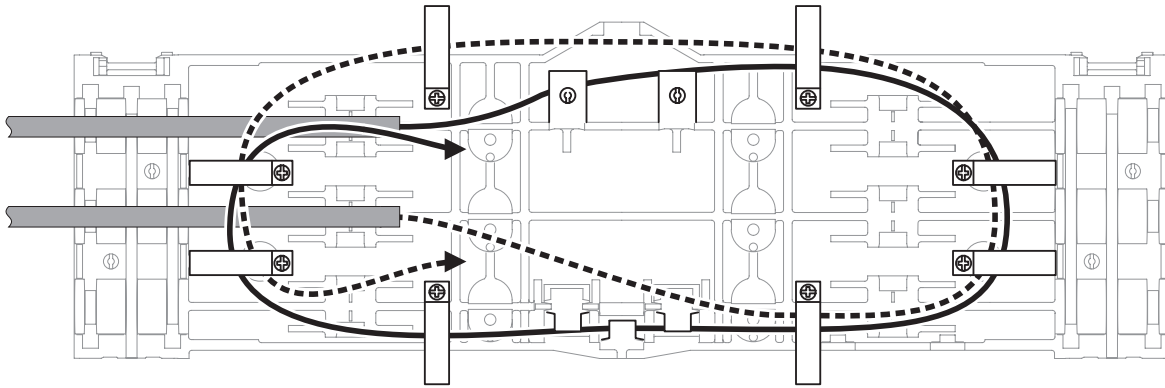

FIGURE 9A—Butt Splice configuration.
7.01 Route and store fiber bundles inside closure frame as indicated in Figure 9A-D. Fiber bundles should maintain minimum bend radius requirements.
7.02 Other port entry or exit combinations can be derived from Figures 9A-D.